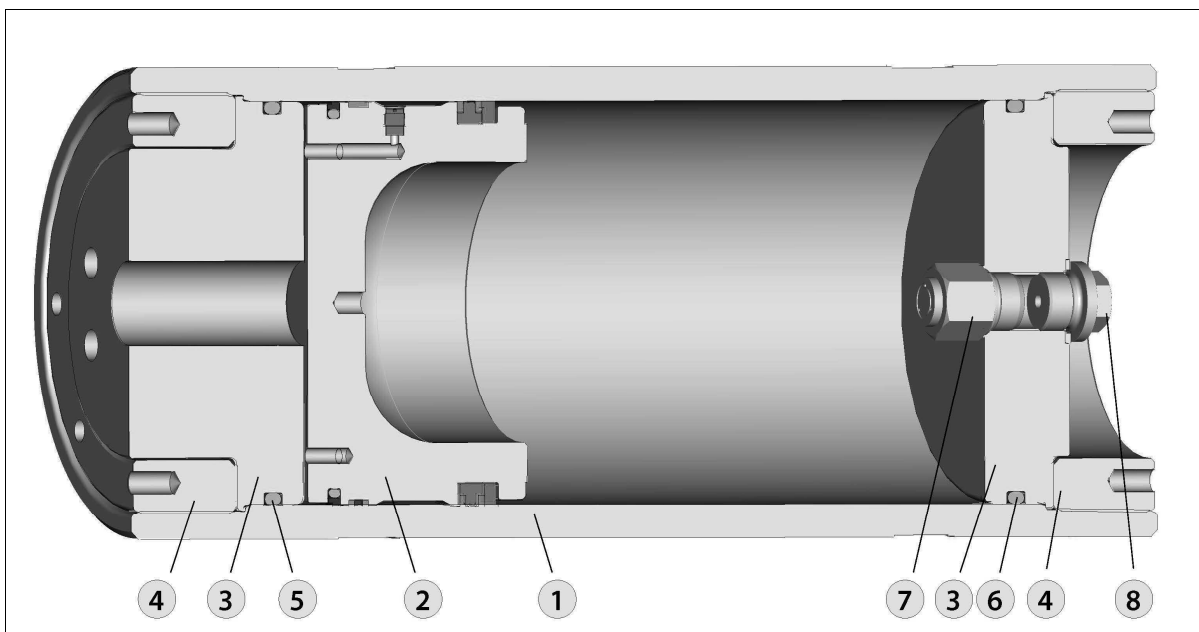

Figure 1-1 Overview of standard Roth pressure equipment
*It is not permissible to interrupt / stop operation of the system in a way to allow the piston (see Fig. 1-1, Pos. 2) to hit the end cap of oil side (see Fig. 1-1, Pos. 3) at high speed (e.g. fast oil pressure release without end position damping)! This excludes emergency stop systems.*
Roth pressure equipments are cylindrical pressure vessels with a separating element between gas and fluid volumes (see Fig. 1-1).